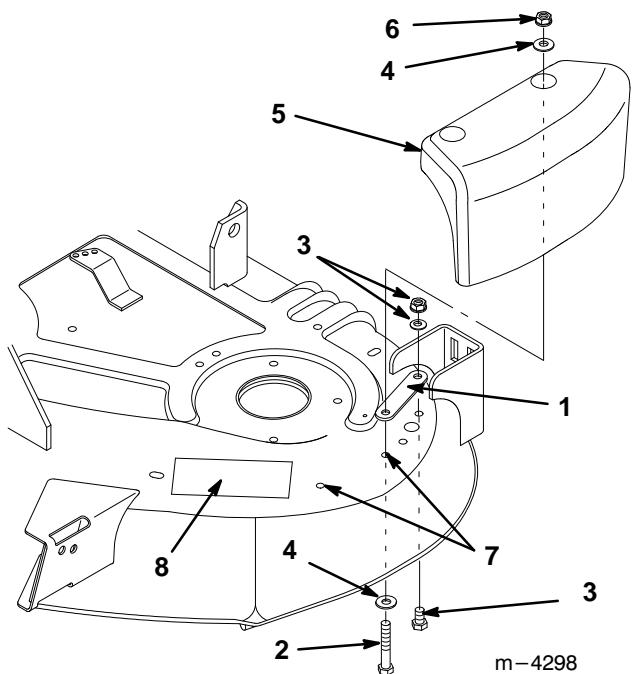

Figure 9
If your mower deck has a washout port (Fig. 9), use these instructions for mounting the counterweight. If there is no washout port, skip this section and install the counterweight per the next section.
2. Using one of the two bolts, washers and nuts from the washout port, install the cover plate to the deck (Fig. 9). Place the bolt up through the deck (head to underside of deck) in the hole closest to the rear of the deck. Install one end of the cover to the bolt and secure loosely with the nut and flat washer.
3. Position the mower deck counterweight on the left-hand side of the mower so that it fits snuggly against the side of the mower (Fig. 9).
4. Align the rear hole in the counterweight with the front hole in the cover plate (pivot the cover plate to align) (Fig. 9).
5. Using a punch in the holes of the counterweight, mark the locations for drilling (2) 13/32" holes. Remove the counterweight and drill the holes.
6. Secure the counterweight to the top of the mower deck with (2) 3/8 x 2 1/4" (57 mm) bolts, (4) 3/8" (10 mm) flat washers, and (2) 3/8" locknuts.
8. An extra decal is included with the bagger because the counterweight covers the original decal. Clean the mower deck surface and place this decal on the mower deck near, but not under the counterweight (Fig. 9).